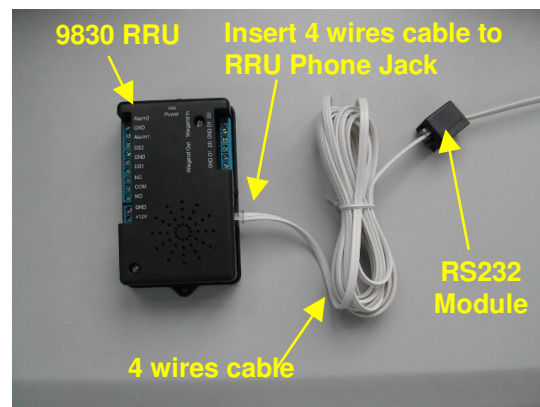

Figure 3 : RRU to RS232 Module Connection
- Connect the RS232 interface module to 9830 (socket marked with RS232) with the 4-wires cable. Please see Figure 3. If connection is success, the Power LED of 9830 will flash with green light.